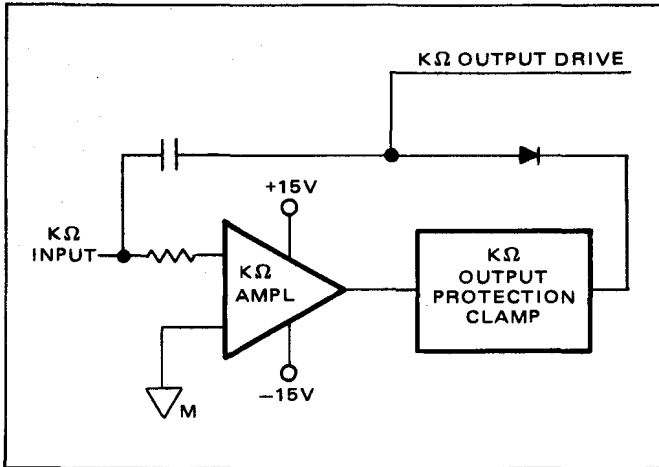

Figure 4.6 - Ohms Amplifier
4.17 *Ohms Amplifier.* A simplified functional block diagram of the ohms amplifier is illustrated in figure 4.6. The ohms amplifier may be viewed as a current-to-voltage converter in that it produces an output voltage directly proportional to the input current. The input current is directly proportional to the value of the resistance being measured. The output voltage produced by the ohms amplifier is always a negative voltage because the source current is derived from the positive one volt ohms reference supply.